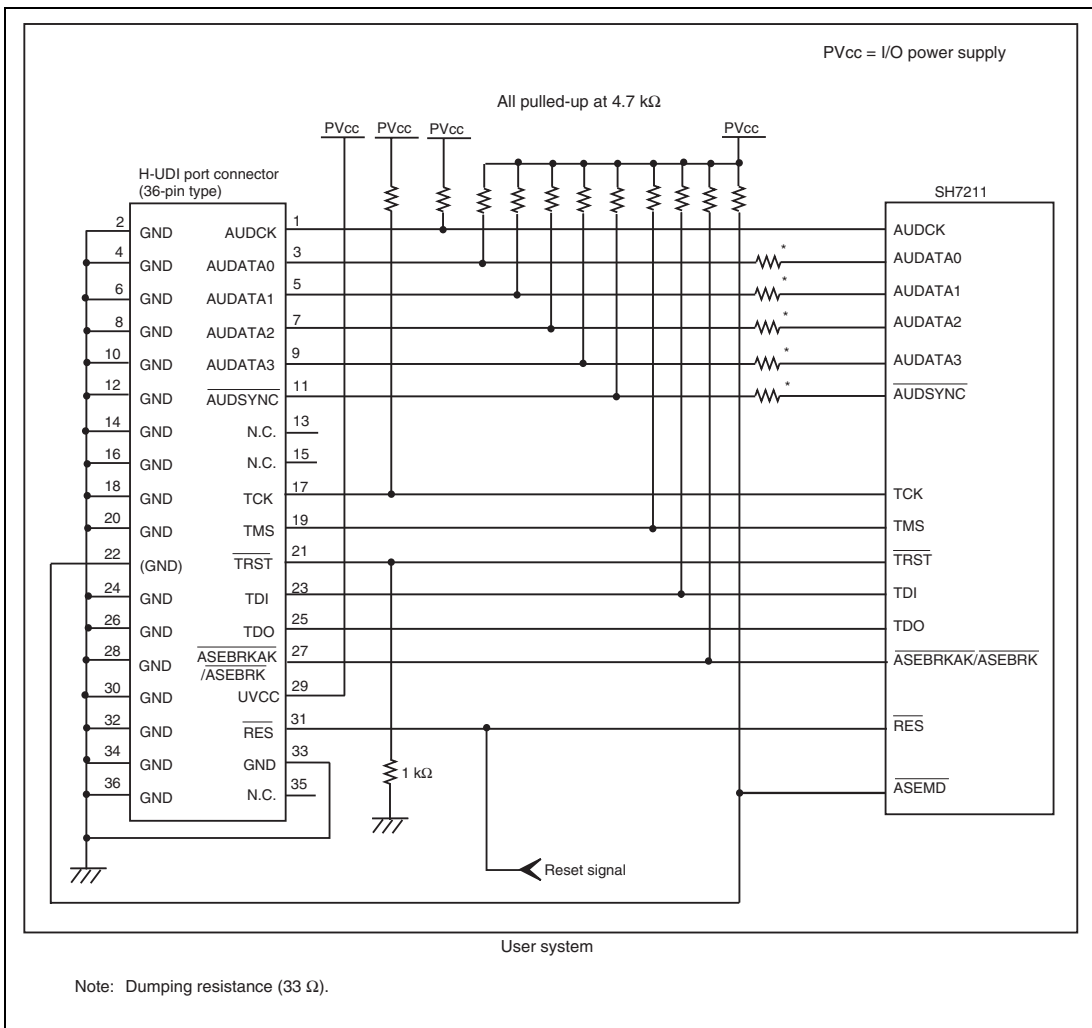

Figure 2.11 Recommended Circuit for Connection between the H-UDI Port Connector and MCU when the Emulator is in Use (36-Pin Type)
Figure 2.11 shows a recommended circuit for connection between the H-UDI and AUD port connectors (36 pins) and the MCU when the emulator is in use.
- (1) When the emulator is used: `_ASEMD` = 0 (ASE mode)
- (2) When the emulator is not used: `_ASEMD` = 1 (normal mode)Figure 2.11 shows an example of circuits that allow the `_ASEMD` pin to be GND (0) whenever the emulator is connected by using the user system interface cable.
7. The resistance values shown in figure 2.11 are for reference.